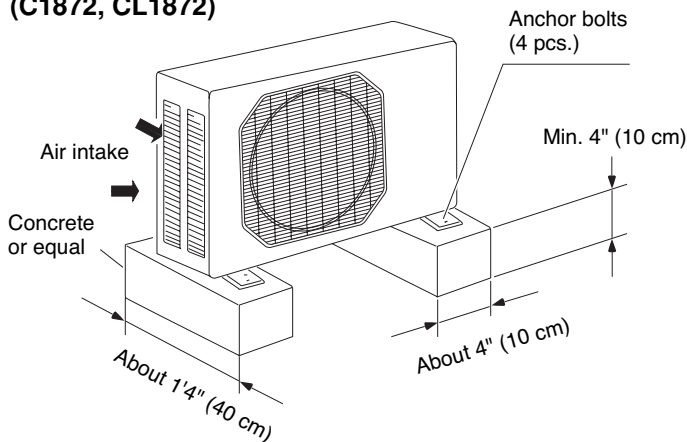

Fig. 5c
- provide a solid base (level concrete pad, concrete block, $4" \times 1'4"$ (10×40 cm) or $6" \times 1'4"$ (15×40 cm) beams or equal), a minimum of 4" (10 cm) or 6" (15 cm) above ground level to reduce humidity and protect the unit against possible water damage and decreased service life. (Fig. 5c or 5d)